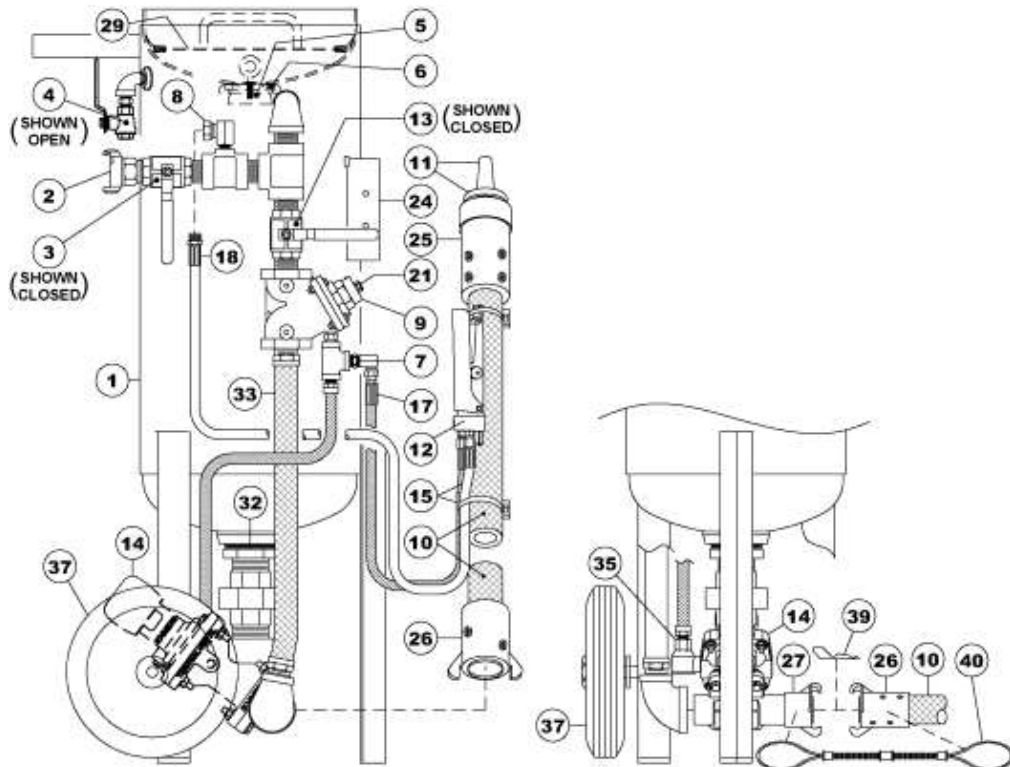

Figure 6.2 – Mini Abrasive Blaster with pneumatic blast controls
6.1 Abrasive Blaster Setup Procedure (see Figure 6.2)
- 6.2.1. Close the air inlet ball valve (#3). The ball valve is closed when the handle is fully turned to the position shown in Figure 6.2 (handle perpendicular to body). The handle tab will bottom against the ball valve body in the closed position.